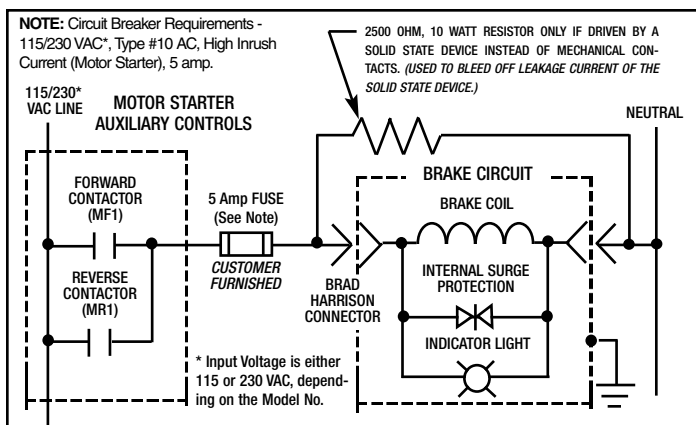

Figure 3 - Electrical Wiring Diagram
- Install Key into keyway of motor. Lubricate shaft of motor with anti-seize lubricate. Slide the Brake Unit onto the motor shaft until the brake mounting flange contacts the motor face. Align the mounting holes with the motor and attach with Mounting Bolts and Mounting Lockwashers. Finger tighten the (4) bolts. **Make sure the brake is snug against the motor face.**
- Connect the electrical service to the Brad-Harrison Connector and actuate the brake coil to release the brake. (See Figures 3 and 4)
- Evenly torque the (4) Mounting Bolts in an opposite manner to following values:
### ● WIRING SPECIFICATIONS (See Figure 3 and 4)